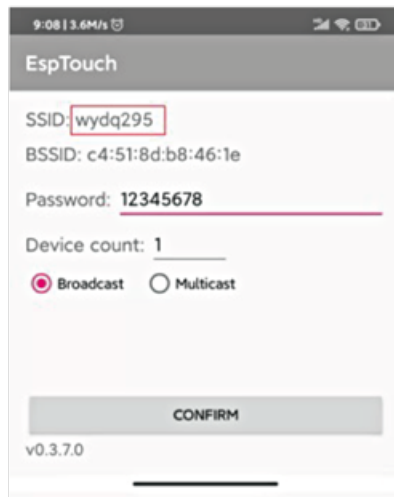

Fig. 6-4 APP interface
- d) Open the esptouch APP, enter the password for the WiFi network name (shown as Fig. 6-4), and keep the phone in the esptouch APP, do not exit.